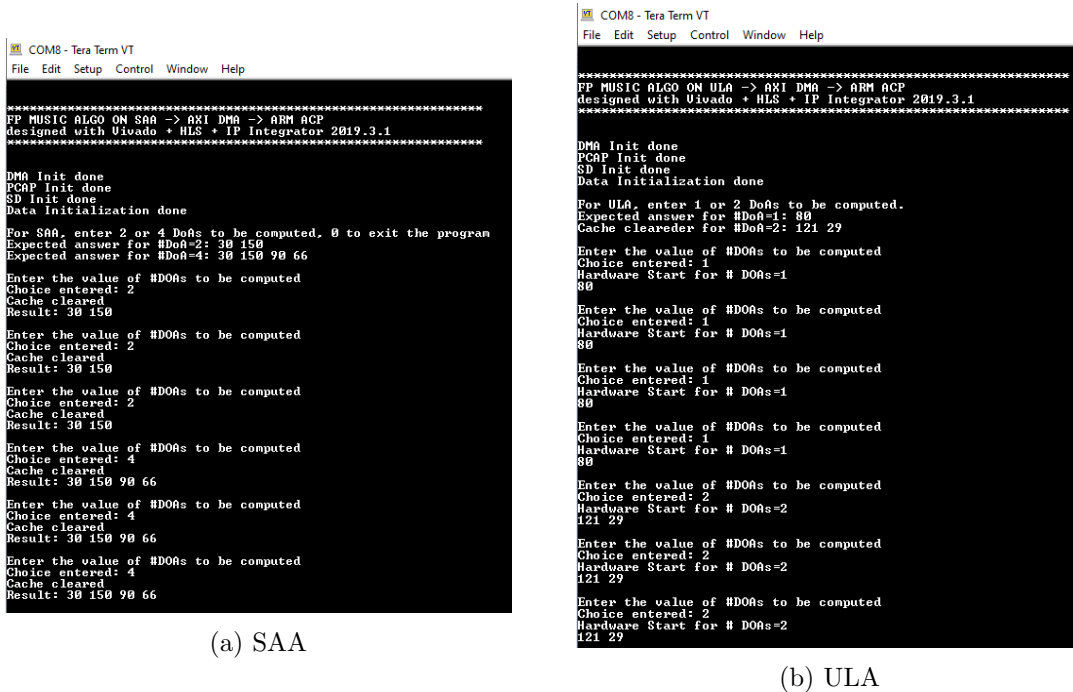

Figure 2: DPR Result for ULA and SAA
- 10-2-6. Below in Fig. 2 is an example user test to show how the terminal window will appear after various reconfigurations.